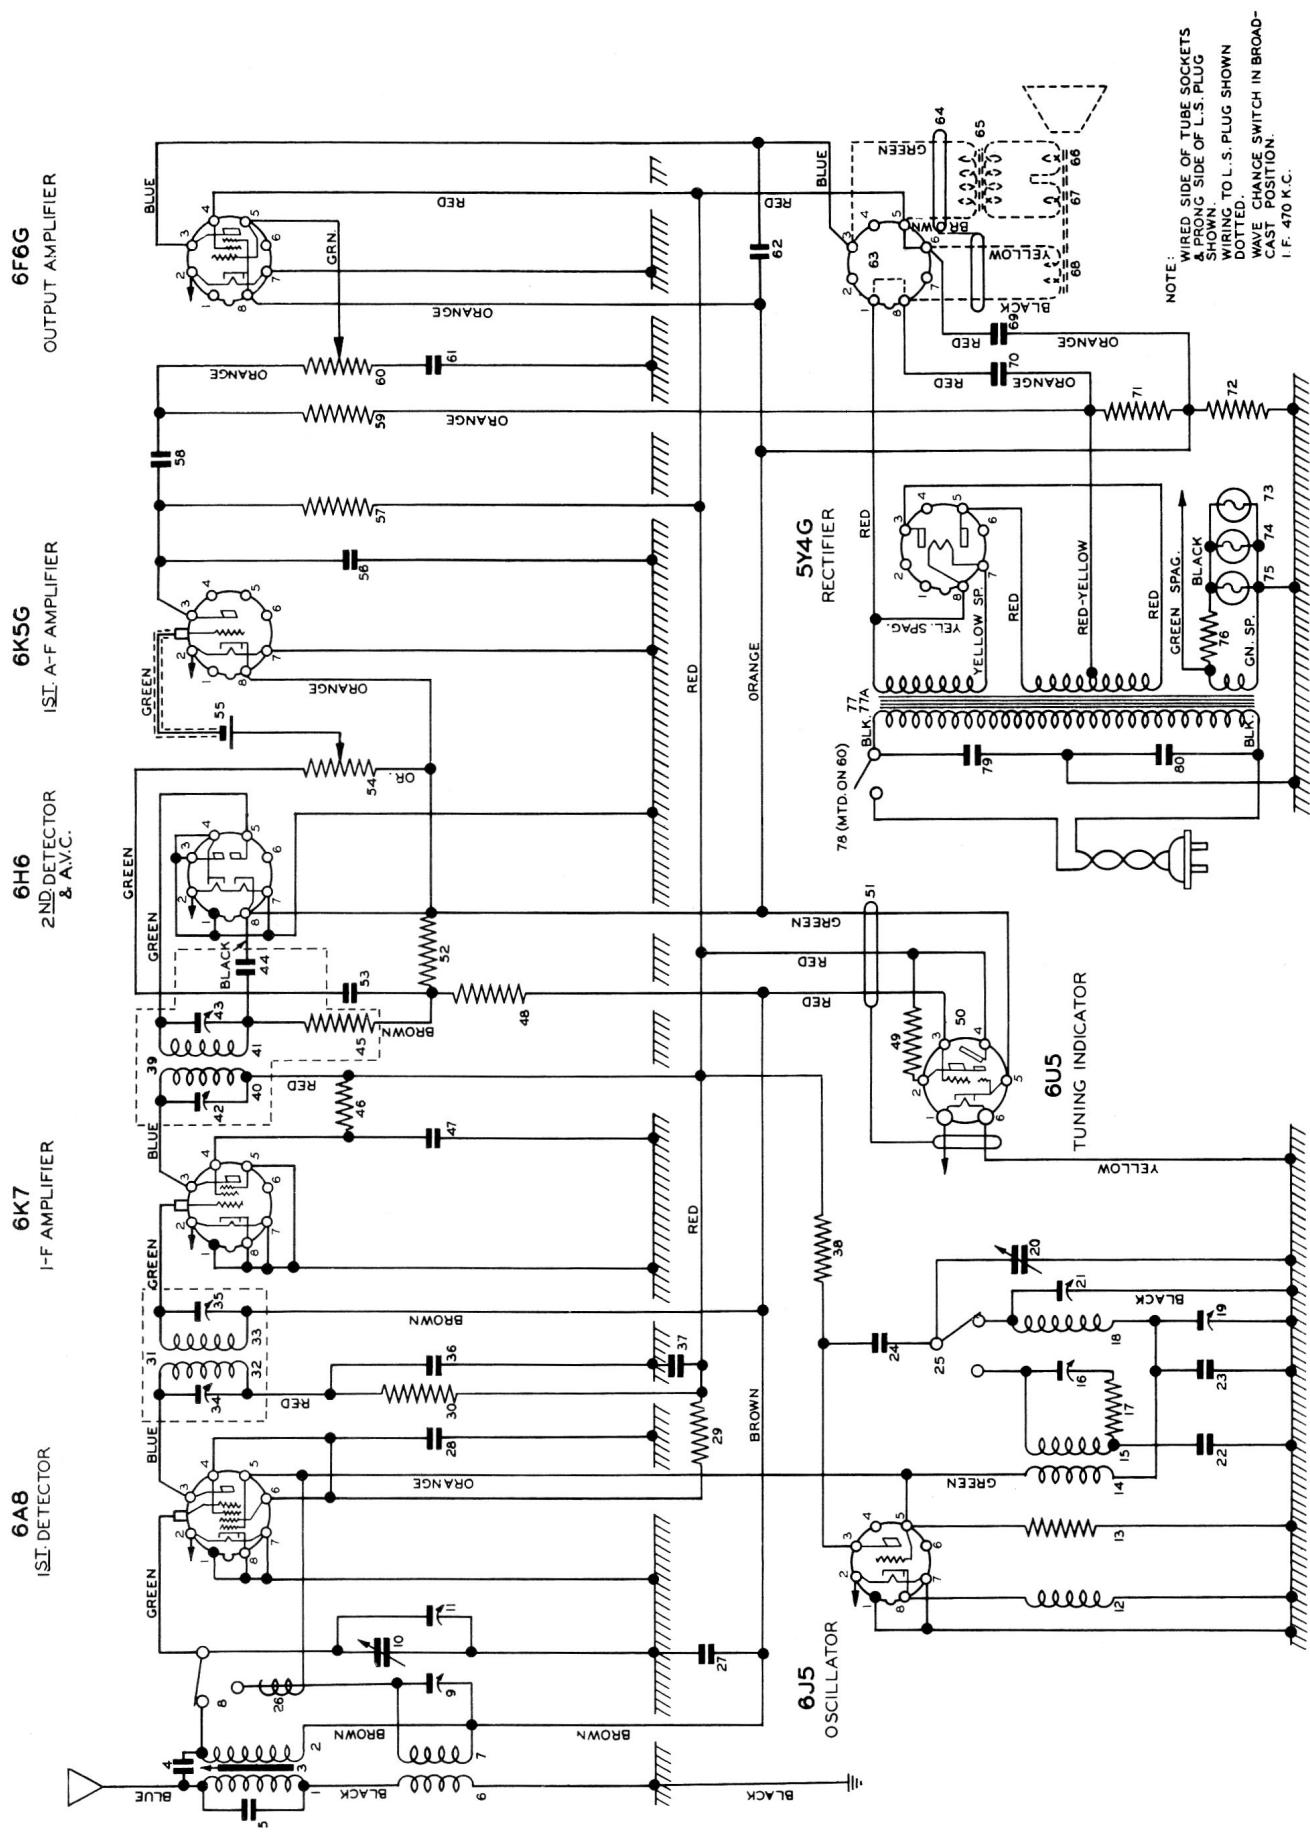

Fig. 6.—Schematic Circuit Diagram of Models 832 - 833
CIRCUIT:—Models 832 and 833 (Refer to Fig. 6—Schematic Circuit Diagram)—The iron-cored broadcast antenna transformer uses both inductive coupling between the primary and secondary, items 1 and 2, and capacity coupling through item 4. The broadcast and short-wave